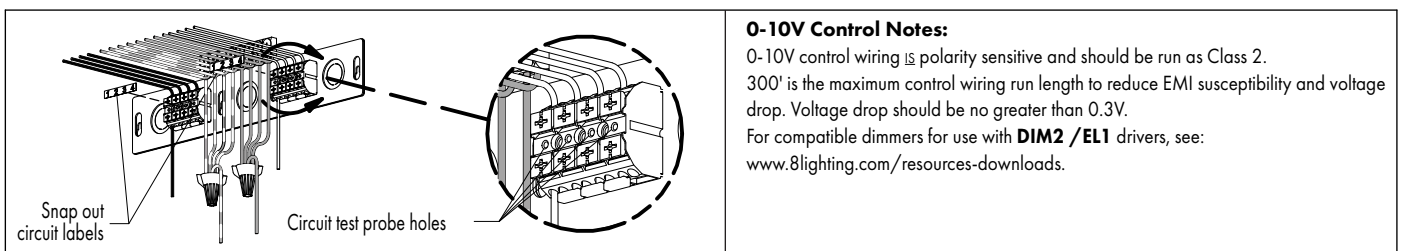

FIG 5.4 Accessing Circuit Probe Holes
3. Check circuit continuity using holes in terminal blocks - FIG 5.4.